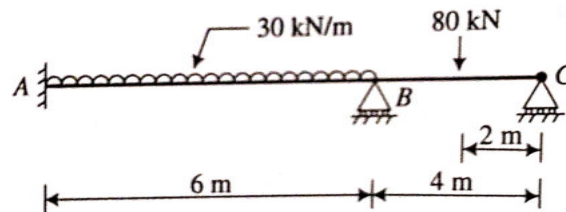

Figure 8.
10. Analyze the continuous beam shown in figure 8, by using the [14M]